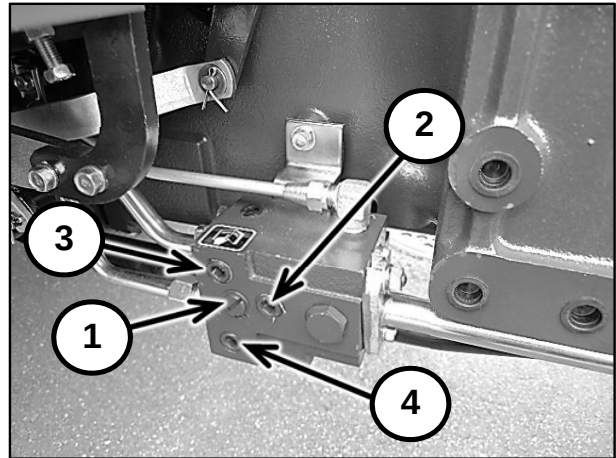

Figure 2-57
The diverter valve (1) in Figure 2-57, can be turned with a blade screwdriver. In the 1 o'clock position, hydraulic fluid is directed to the HPL valve and rear remotes (optional). When a valve for another attached implement is plumbed to the three ports - (pressure out (2) in Figure 2-57, pressure return (3) in Figure 2-57, and sump or tank (4) in Figure 2-57), the diverter valve must be turned counter-clockwise to 11 o'clock position for hydraulic fluid flow to the implement valve and then to the HPL valve and rear remote valve (optional).